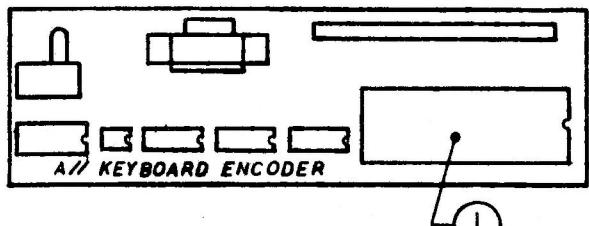

FIGURE 4
- IPL.5 Keyboard Encoder Card (Figure 4)
KEYBOARD ENCODER CARD (Figure 4)